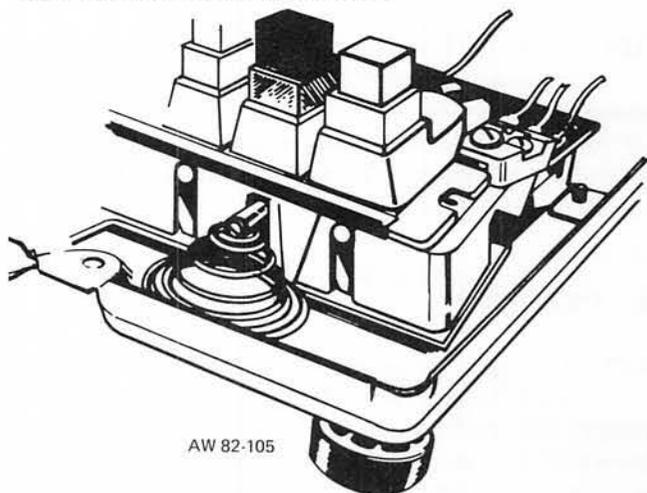

Figure 3: Hold Key To Signal Key Conversion
**9.01** Line 3 (terminals 3T and 3R on the key terminal board) is used for manual intercom. The hold key of line 3 may be used for signaling. The signal circuit is connected at the S1 and LG terminals of the key terminal board. A power supply providing talk and signal power must be provided in the respective circuits. To convert the number 3 hold key to the signaling mode, unscrew the interlock screw from the hold plunger approximately 8 turns, until it clears the interlock slides. Insert the helical spring (provided with the telephone under the head of the interlock screw) as shown in Figure 3.